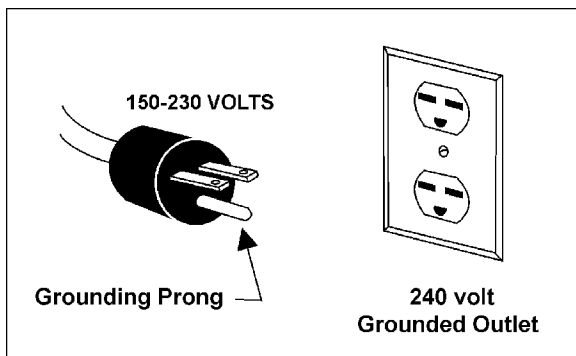

Figure 24
3. The 115V attachment plug supplied with the band saw must be replaced with a UL/CSA listed plug suitable for 230V operation, as shown in Figure 24. Contact your local authorized JET service center or qualified
- The band saw with a 230 volt plug should only be connected to an outlet having the same configuration (Figure 24). No adapter is available or should be used with the 230 volt plug.